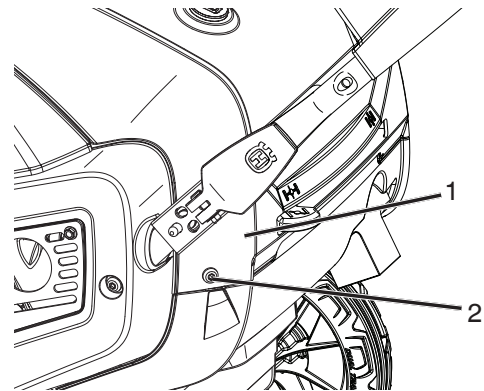

Figure 31
22. Set rear upper cover in place so the two screw holes line up with the rear lower cover and side covers (Figure 31).